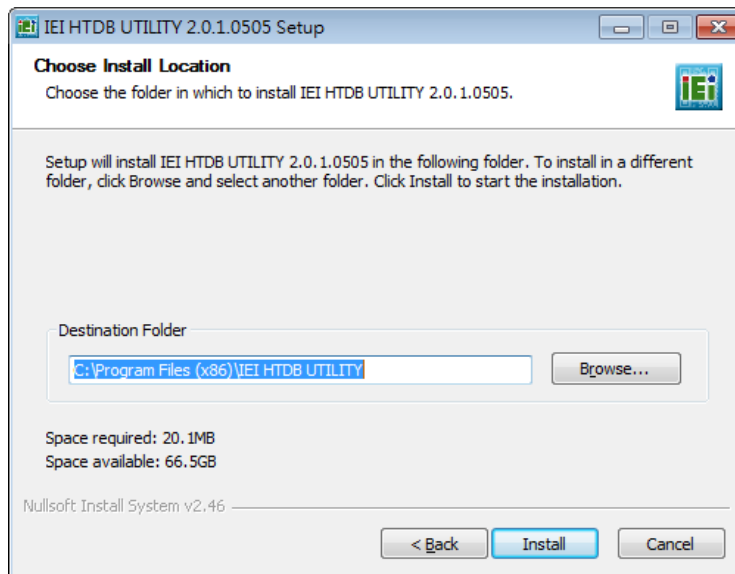

Figure 3-4: Selecting the Installation Folder
Step 8: Select a folder for installation (**Figure 3-4**). Click **Install** to start installation.